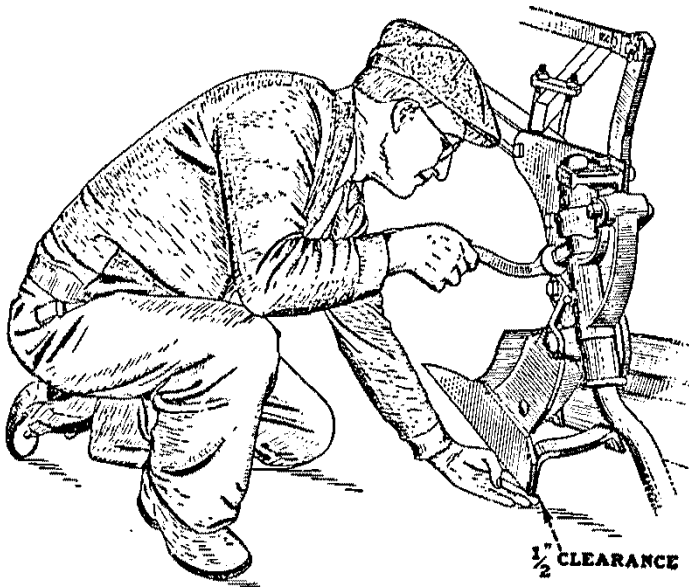

Fig. 13. Adjusting the furrow wheel or rolling landside wheel to provide heel clearance as described in Step 10, Part a.
- a. The furrow wheel should be adjusted to carry weight on rear end of the plow. With plow still in plowing position, adjust rear wheel downward against furrow bottom or floor until rear end of landside or heel is  $\frac{3}{8}$  to  $\frac{1}{2}$  inch off the furrow bottom. There should be enough clearance so that the tips of the fingers can be placed between the heel and furrow bottom (fig. 13). Recheck this clearance when plow is in the ground and working.